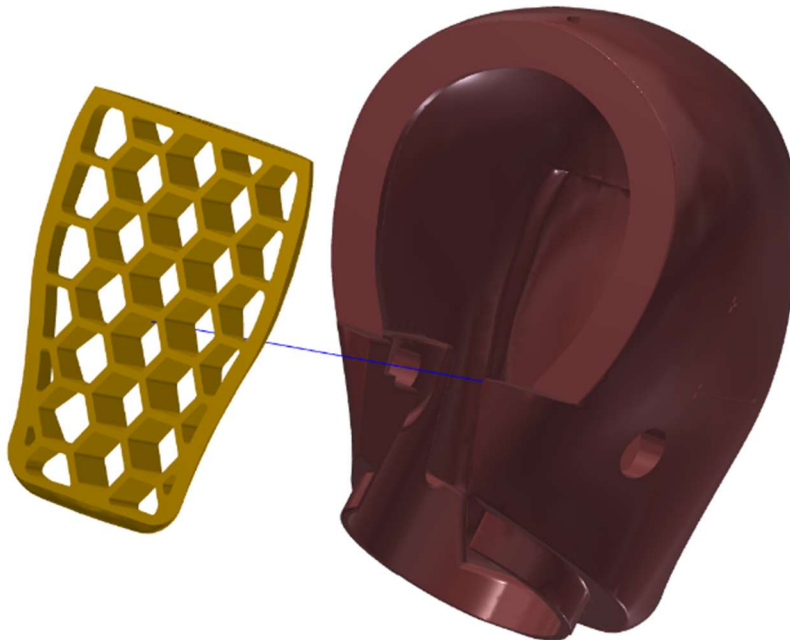

Figure 3-5. Face insert and head skin
- 3.2.4 Remove the face insert (474-1401) from the head skin (Figure 3-5).